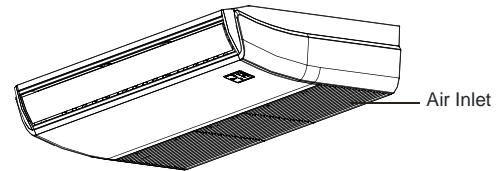

Fig.6-1
- Open the air intake with the screwdriver or something like that.(Refer to Fig.6-1)